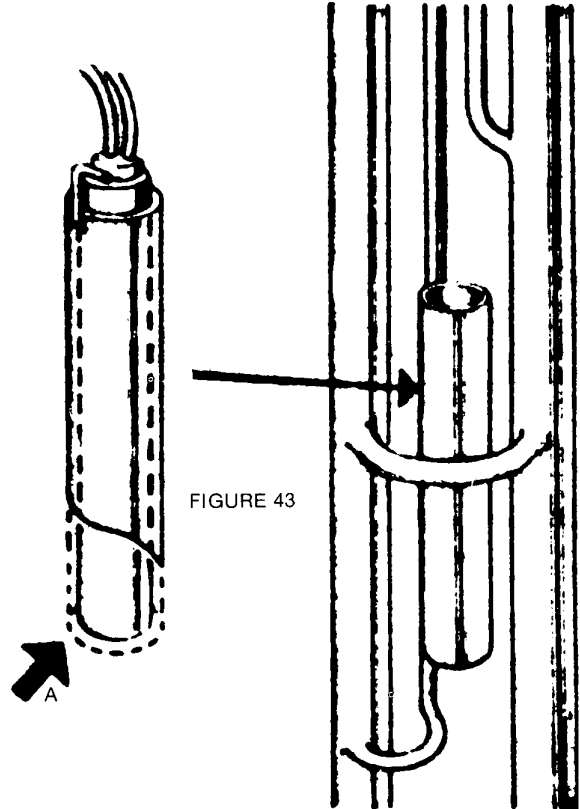

FIGURE 43
3. Make sure that the heater is inserted to the bottom of the well pocket. See Fig. 43.